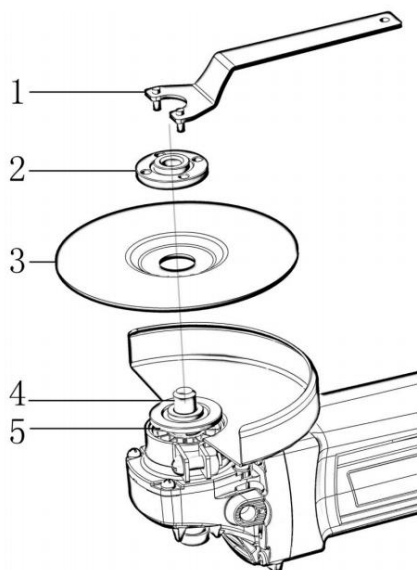

Fig 3
1. Mount the inner flange onto the spindle, fit the wheel/ disk on the inner flange and screw the outer flange onto the spindle (Fig3)